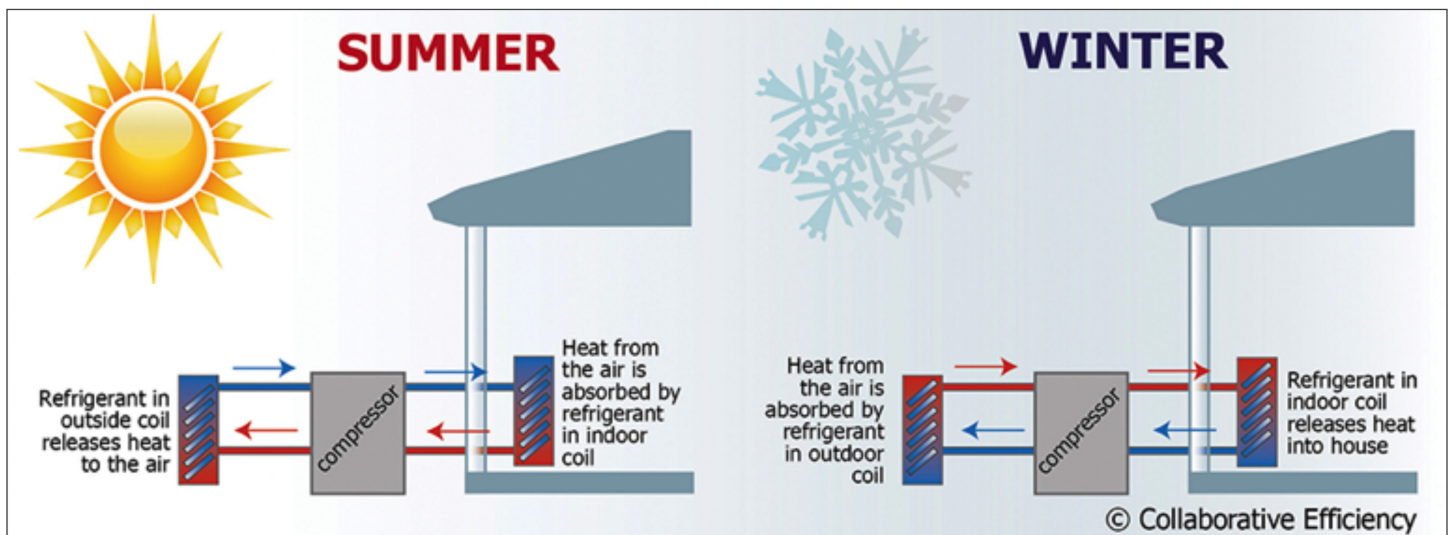

FIGURE 3: How an Air Source and Heat Pump Works (Source: <http://alabamaliving.coop/wp-content/uploads/2017/08/how-a-heat-pump-works.jpg>)
Air-source heat pumps (ASHPs) work by drawing heat from outdoor air, using refrigerants for heat exchange and a compressor to raise the temperature of the refrigerants, which then heat the air inside the building. In the summer, the cycle is reversed to expel heat, thereby cooling the incoming air like an air conditioning (AC) unit and rejecting the heat outside. See Figure 3.